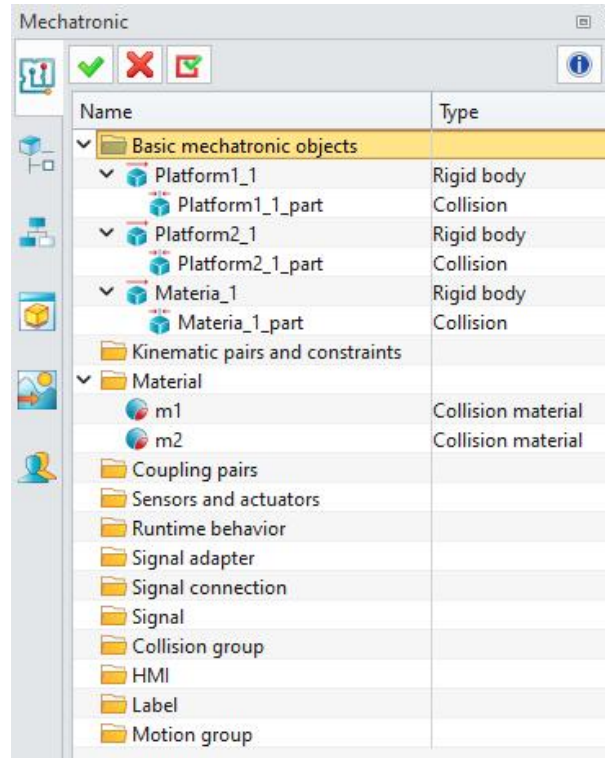

Figure 5-14: The entire mechatronic framework
- At this point, you should have successfully created materials, rigid bodies, and collisions for all components. (Figure 5-14)